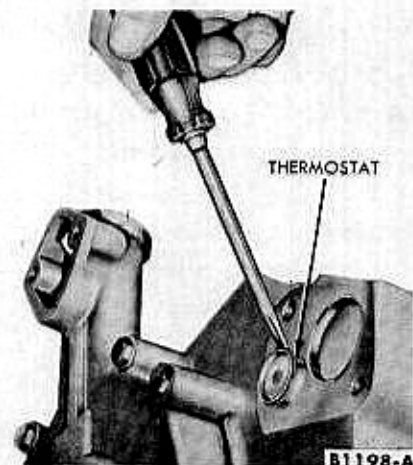

FIG. 3—Cylinder Block Thermostat Removal—430 Engine
2. Pry the cylinder block thermostats from the cylinder block with a screwdriver or thin blade chisel (Fig. 3).